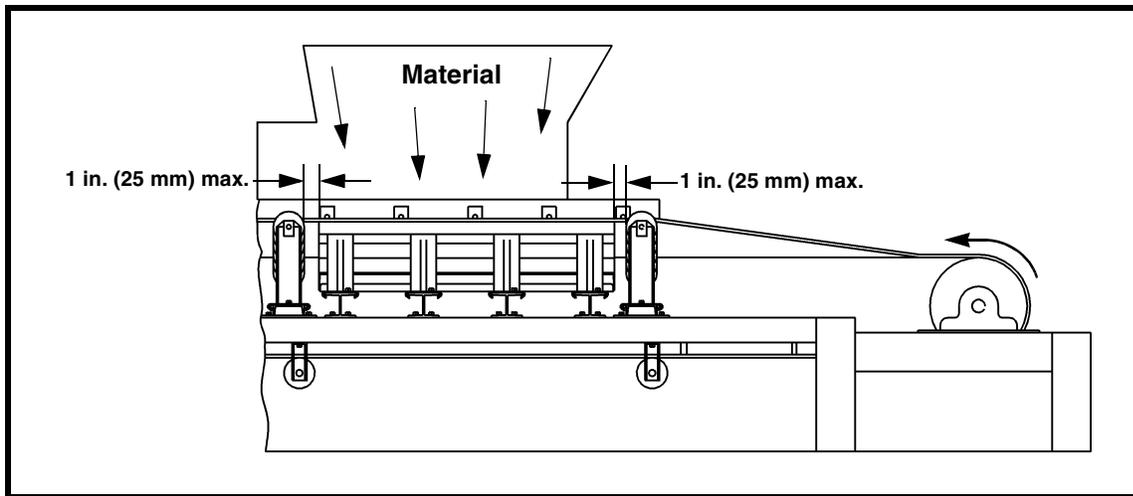

Figure 3. Installing Idlers with Martin® Impact Cradle or Support Cradle
2. Install idlers as explained under *Installing Martin® Trac-Mount™ Idlers*, making sure roller is no more than 1 in. (25 mm) from either side of the impact or support cradle (see Figure 3).